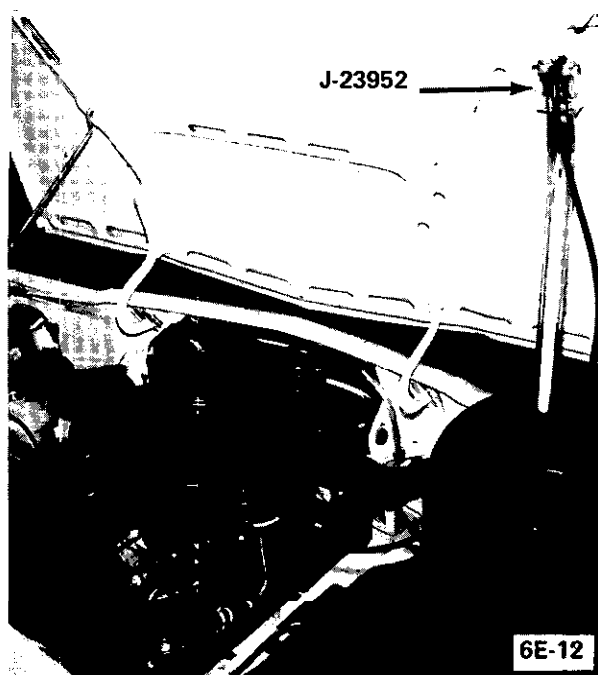

Figure 6E-12 Throttle Plate Calibrator J-23951 Installed
2. Place the Manometer (J-23951) in a vertical position. Turn the 2 vents on top open to equalize pressure and balance gauge to read zero. With engine idling, unplug the vacuum advance hose from the carburetor and connect the manometer hose in its place. See Figure 6E-12.